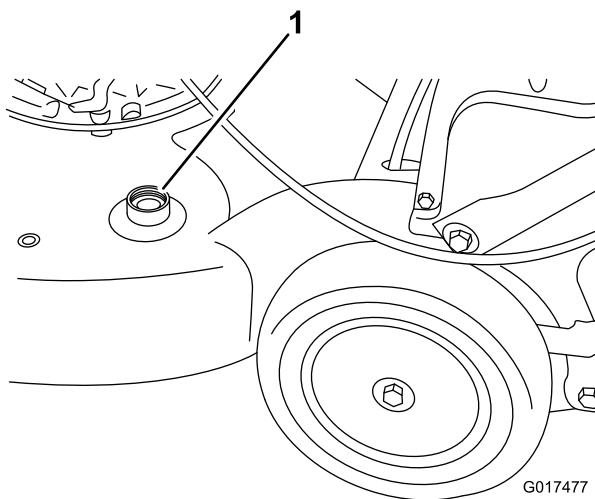

Figure 30
- Attach a garden hose that is connected to a water supply to the washout port on the mower housing (Figure 30).